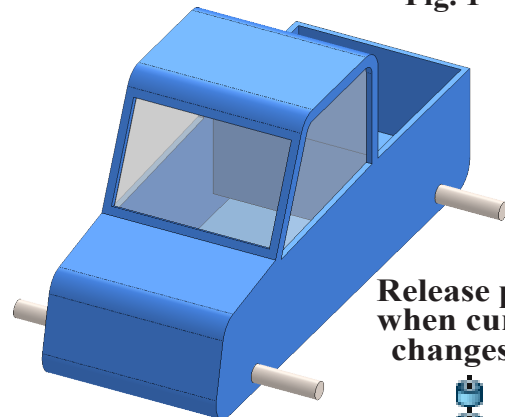

**Fig. 1**
Step 2. Click **Keep Visible**  in the Property Manager, **Fig. 1**.
Step 3. Click **Browse** in the Property Manager, **Fig. 1**.
Step 6. Click **Browse** in the Property Manager, **Fig. 1**.